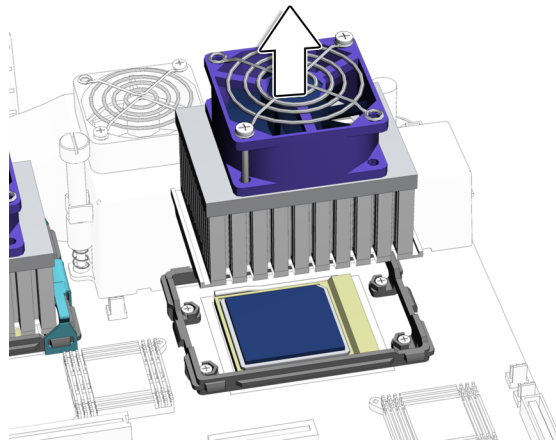

FIGURE 11-14 Removing the CPU Fan and Heat Sink Assembly
8. Remove the CPU fan and heat sink assembly (FIGURE 11-14).
b. Lift and remove the CPU fan and heat sink assembly (FIGURE 11-14).